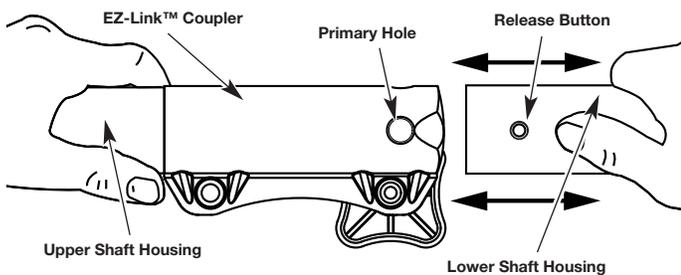

Fig. 17
2. While firmly holding the add-on, push it straight into the EZ-Link™ coupler (Fig. 17).
3. While firmly holding the upper shaft housing, pull the cutting attachment or add-on straight out of the EZ-Link™ coupler (Fig. 17).